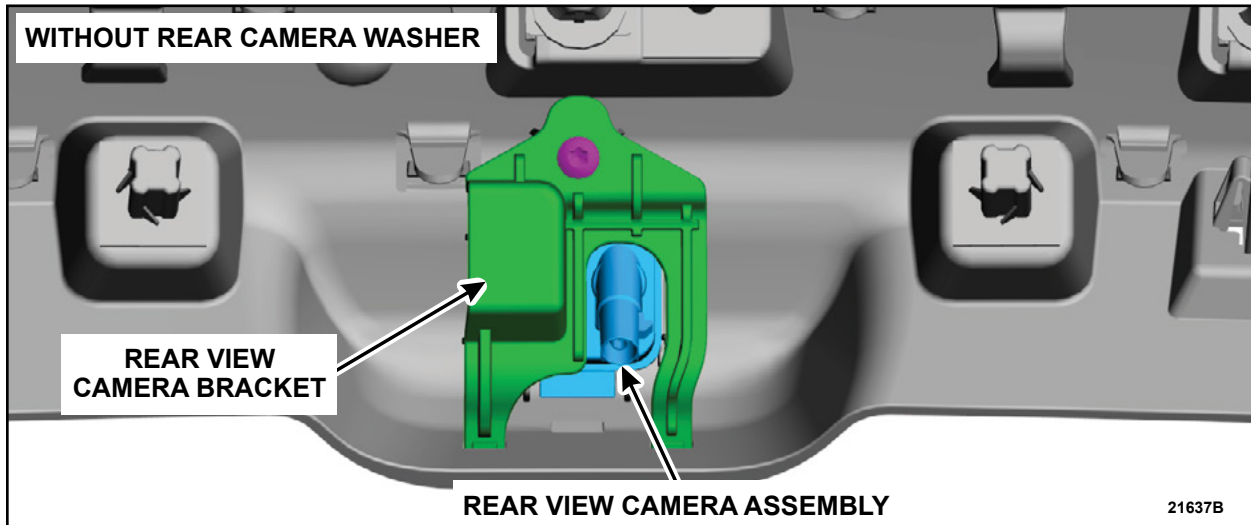

FIGURE 15
3. Remove the rear view camera retainer, bracket and the rear camera assembly. See Figures 15 and 16.